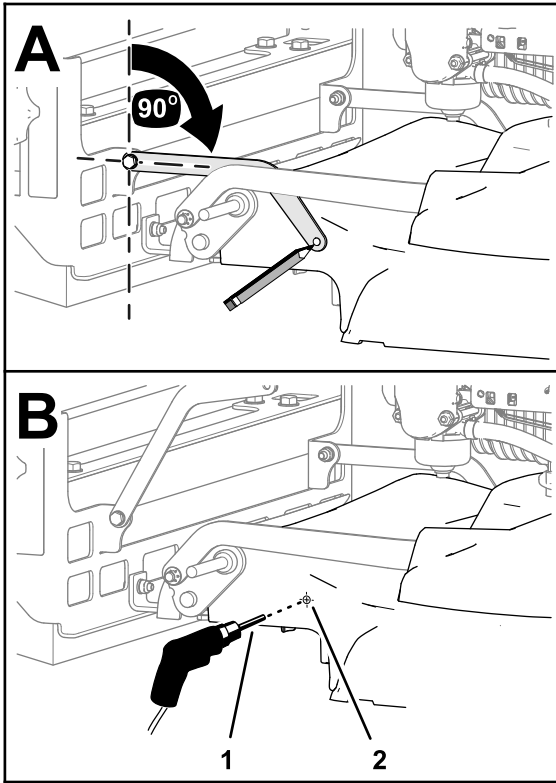

Figure 14
1. At the left side of the mower deck, align the brush strut 90° to the to the brush mount (Figure 14).
2. Mark the hole location of the brush strut onto the deck (Figure 14).
4. Drill the centerpunch mark with a drill bit (6.5 mm) as shown in Figure 14.